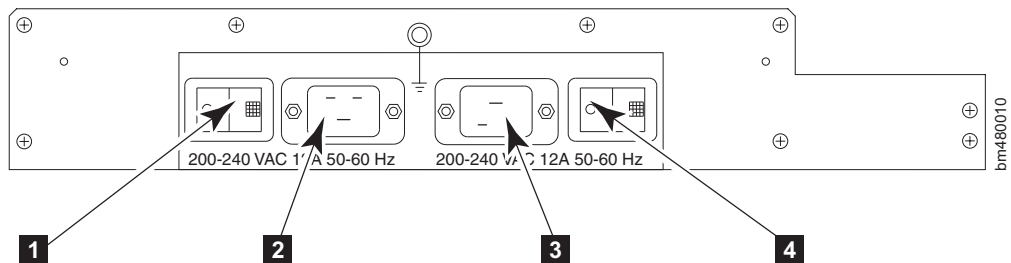

Figure 35. Director ac power connectors and switches
Figure 35 shows the ac power connectors and switches, and identifies the power supplies that each connects to. Use this information in order to maintain power to the director when replacing a power supply, if necessary.
1. If the director is not operating during the replacement procedure, skip to step 2. If the director is going to continue operating during the replacement procedure, check the power LEDs to verify that the minimum number of power supply units required is still functioning: A fully populated director requires a minimum of one functioning power supply unit in any slot at all times to ensure power to the director. For maximum availability of the director, you should have a minimum of one power supply unit in slot 1 or 3, and one in slot 2 or 4. See Figure 35 on page 72 to verify which ac power connectors and ac power switches are connected to the unit you will be removing.